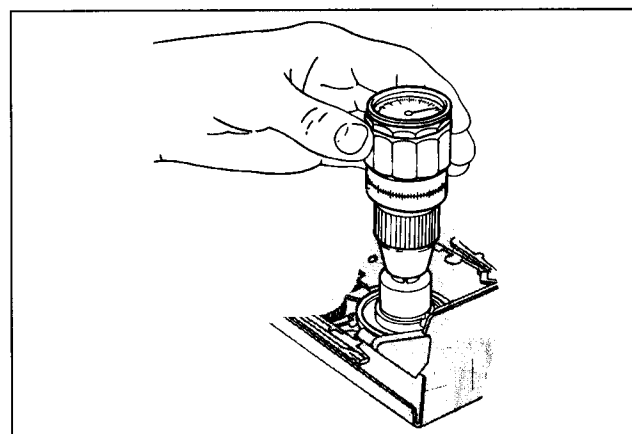

Fig. M18
- Keep turning until the indication at the torque meter no longer changes (see fig. M18)